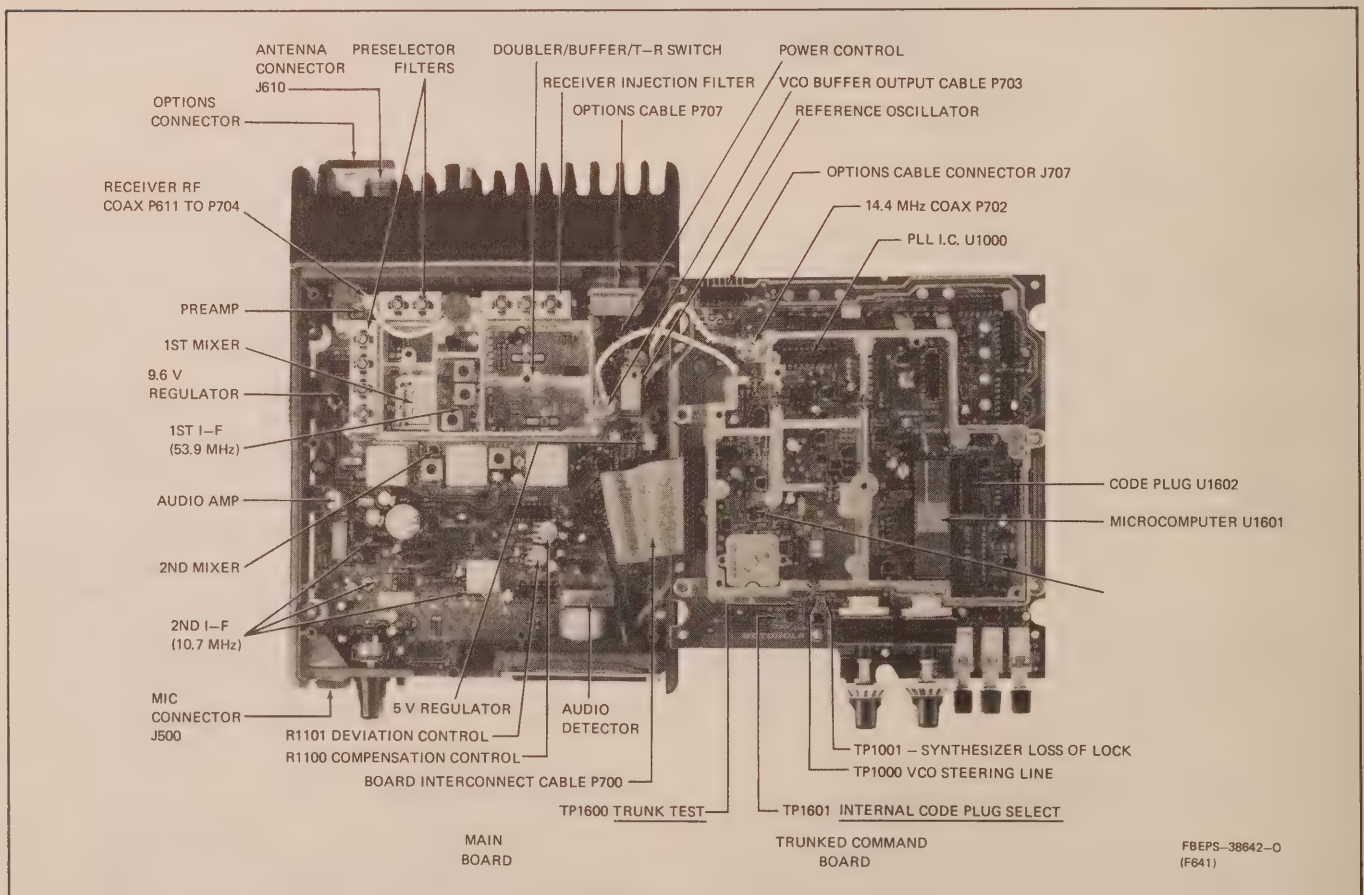

Figure 3. Top View of Mostar Trunked FM Two-Way Radio with Main Board and Trunked Command Board Exposed (shields removed)
3.2.1 Microcomputer (Refer to Figure 3)